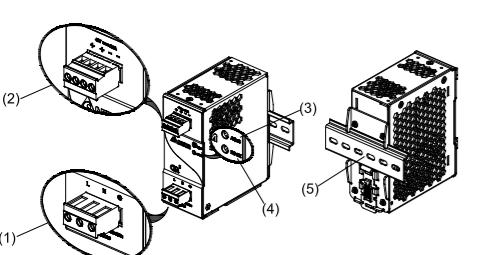
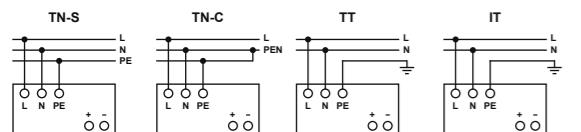

Figure 1
Figure 6
5.1. Input connection (Fig. 1 (1), Fig. 6)
Use L, N and PE connections of input terminal connector (see Fig. 1 (1)) to establish the 100-240Vac connection.
2. Device description (Fig. 1)